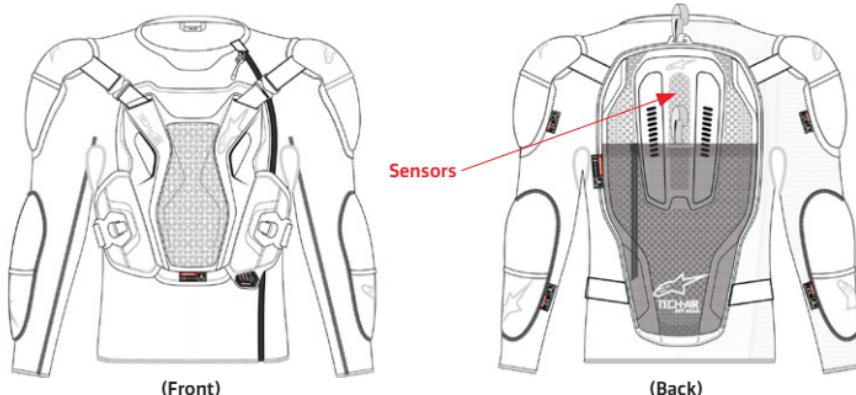

Figure 1 – Sensor Location
The System consists of an Airbag Control Unit (8) (with built-in sensors) integrated into a set of protectors (Figure 1). The cluster of sensors of the Airbag Control Unit (8) consists of 1 tri-axial accelerometer and 1 tri-axial gyroscope positioned inside the back protector (11). These sensors monitor the user's body for shocks or unexpected movements. In the event the user's body is subject to a high and/or sudden amount of energy, the System will deploy. This may occur when the motorcycle is involved in an accident, such as when the motorcycle collides with another vehicle or with an object, when the rider loses control or when the rider falls off the motorcycle.